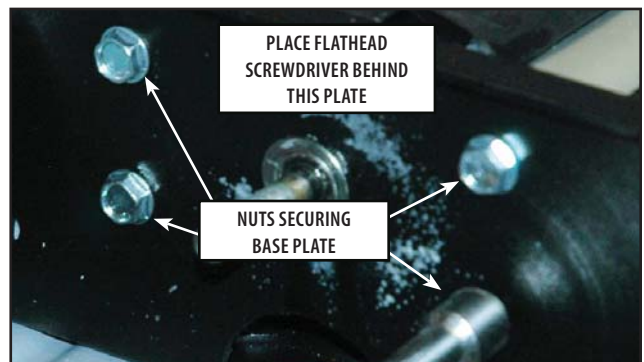

FIGURE 6.14
7. Using a 5/16" nut driver remove the 4 nuts and washers securing the Base Plate at the end of the Frame Base. **Refer to Figure 6.14.**
8. Using a large Flathead screwdriver, gently pry the plate off of the Ball Screw. **Refer to Figure 6.14.**